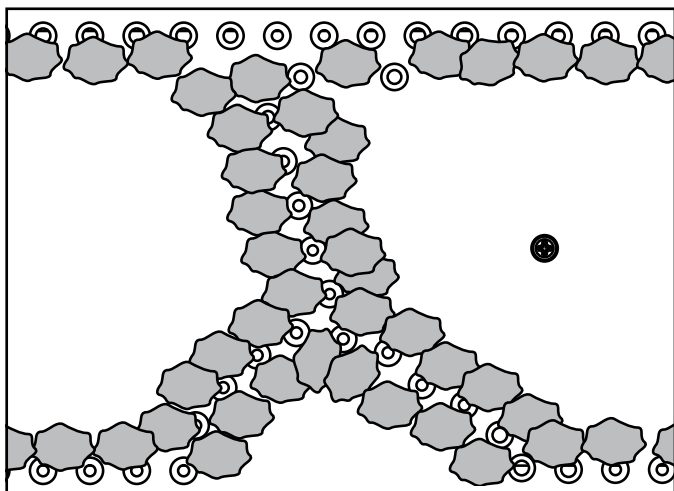

Figure 11.4 Embers Overlapping Burner Port Holes (Propane only).
- **Propane Only:** Using dime-size pieces of Glowing Embers®, overlap the burner ports as shown in Figure 11.4. The impingement created by the embers will help blend the fire.